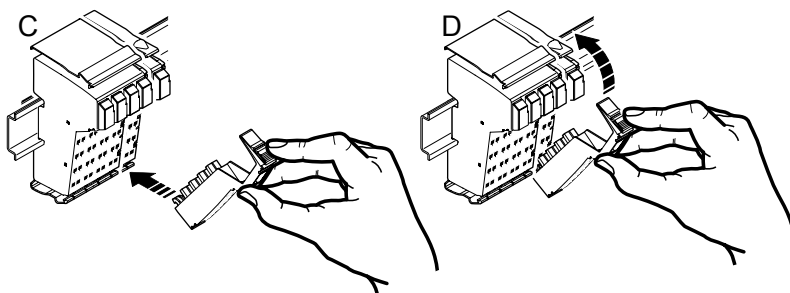

Fig. 10-11: Fastening the connectors
4. First fit the front connector shaft latching into the front release mechanism (C in figure 10-11).
5. Press the connector towards the terminal until it clicks into the rear release mechanism (D in figure 10-11).